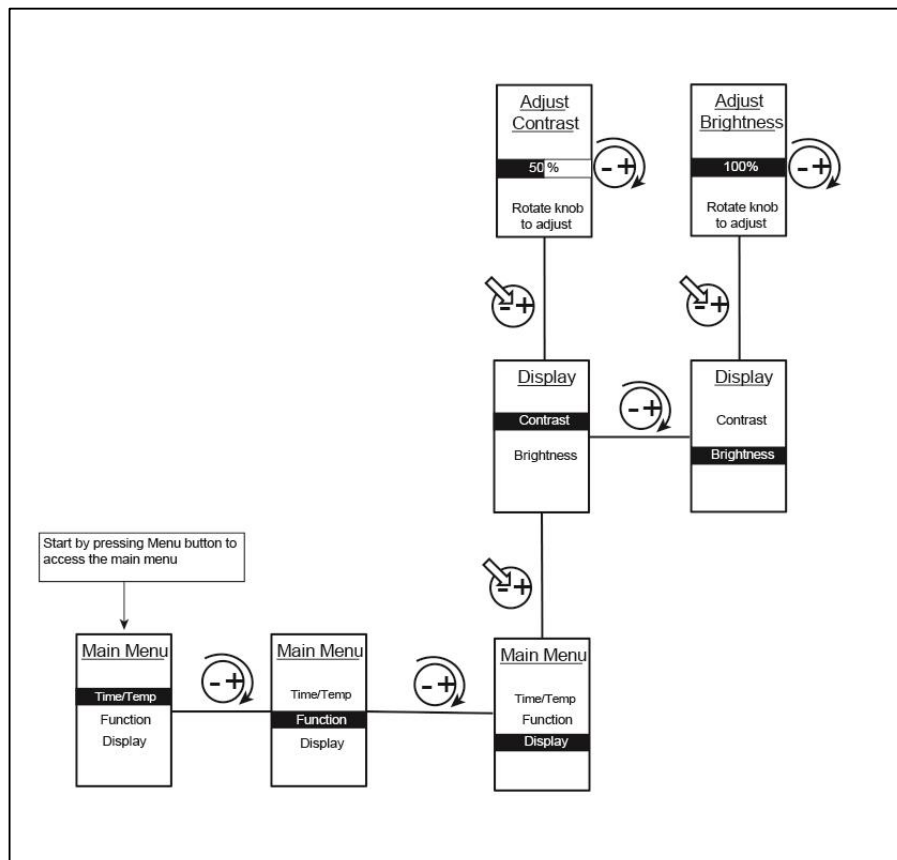

Figure 18: How to Adjust the Display Settings of the User Interface
- display settings (see Figure 18)